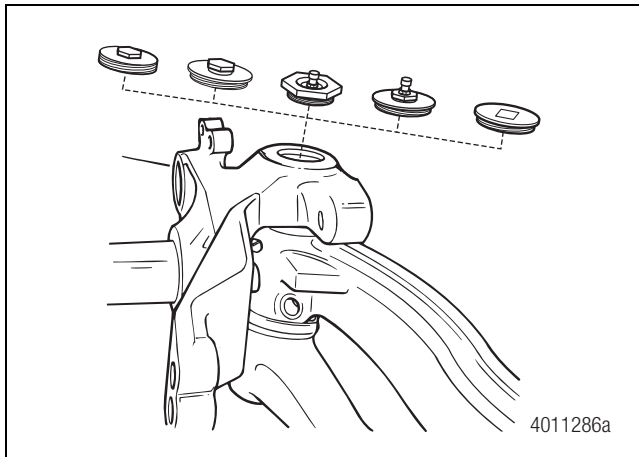

Figure 6.33
3. Tighten the king pin caps to 70-90 lb-ft (95-120 N•m). Figure 6.33.